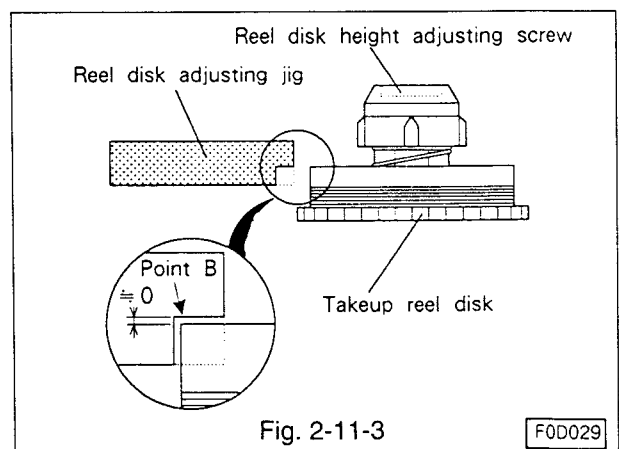

Fig. 2-11-3
- L. If the height of the disk is not satisfactory, hold the disk so that it shall not turn, and turn the height adjusting screw at the top of the disk to adjust the height. (Refer to Fig. 2-11-3.)
- F. Turn the jig slowly about the point A towards the takeup reel disk to make certain that the height of the disk flange agrees with the point B on the takeup side of the jig(marked TU). (Refer to Fig. 2-11-3.)
- G. If the height of the disk is not satisfactory, hold the disk so that it shall not turn, and turn the height adjusting screw at the top of the disk to adjust the height. (Refer to Fig. 2-11-3.)